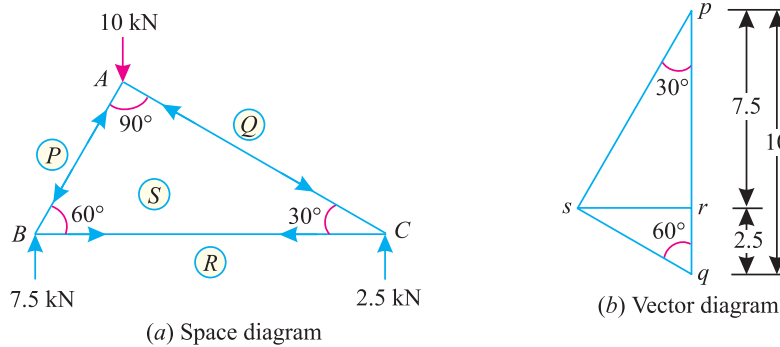

Fig. 14.4.
†First of all, draw the space diagram for the truss alongwith the load at its apex and the reaction  $R_B$  and  $R_C$  as shown in Fig. 14.4 (a). Name the members AB, BC and AC according to Bow's notations as PS, RS and SQ respectively. Now draw the vector diagram as shown in Fig. 14.4 (b) and as discussed below :
4. Similarly, draw vector diagram for the joint C, whose directions follow q-r; r-s and s-q shown Fig.14.4 (a) and (b). Now check the vector diagram for the joint A, whose directions follow p-q ; q-s and s-p.